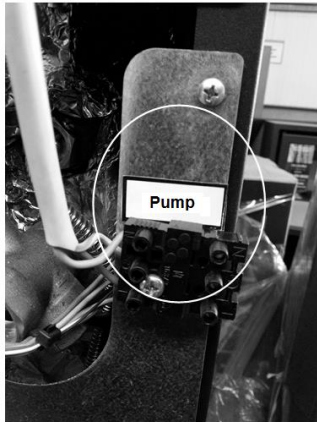

Figure 9 - Plug for connecting circulating pump
- * On the back of the boiler is a plug to connect the circulating pump of the hydraulic circuit (Fig. 9).